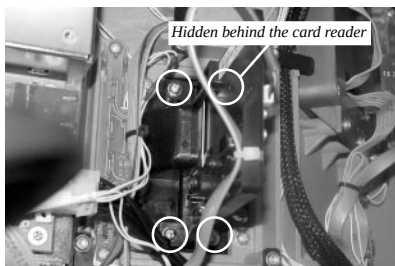

Figure 3-30. The card reader assembly. Remove the four screws highlighted in the circles to remove the card reader from the control panel.
1. Unlock and open the top enclosure. Turn the cash dispenser OFF by pushing the Power ON/OFF switch to the OFF(0) position.
3. Refer to Figure 3-30. Unplug the communication cable from the card reader.
4. Refer to Figure 3-30. There are eight screws visible when looking at the card reader. Remove only the four outer screws to remove the card reader from the control panel. Be careful, the card reader may fall from the control panel if not properly supported.